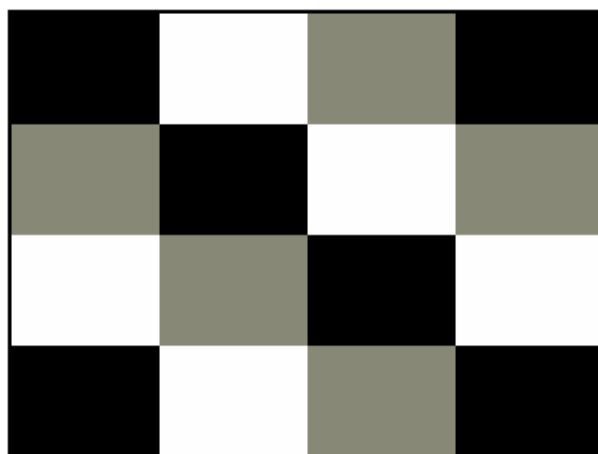

Figure 5-2. Version & Calibration data.
2. Press  **CALIBRATE** . The display will show a dark test pattern, see Figure 5-2